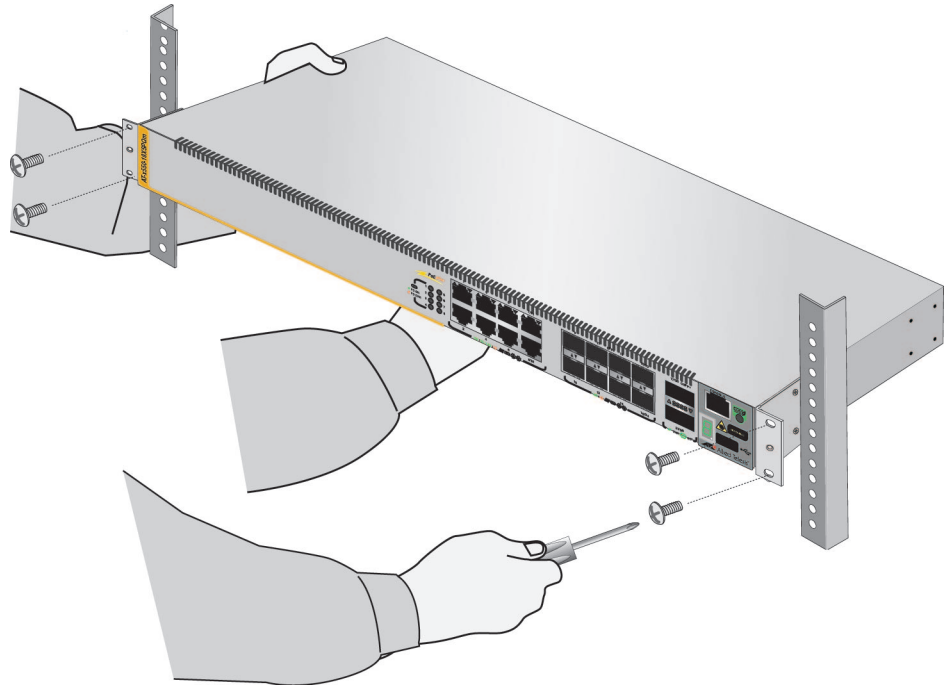

Figure 39. Installing the Switch in an Equipment Rack
3. Have another person hold the switch at the desired location in the equipment rack while you secure it using four standard equipment rack screws (not provided). Refer to Figure 39.